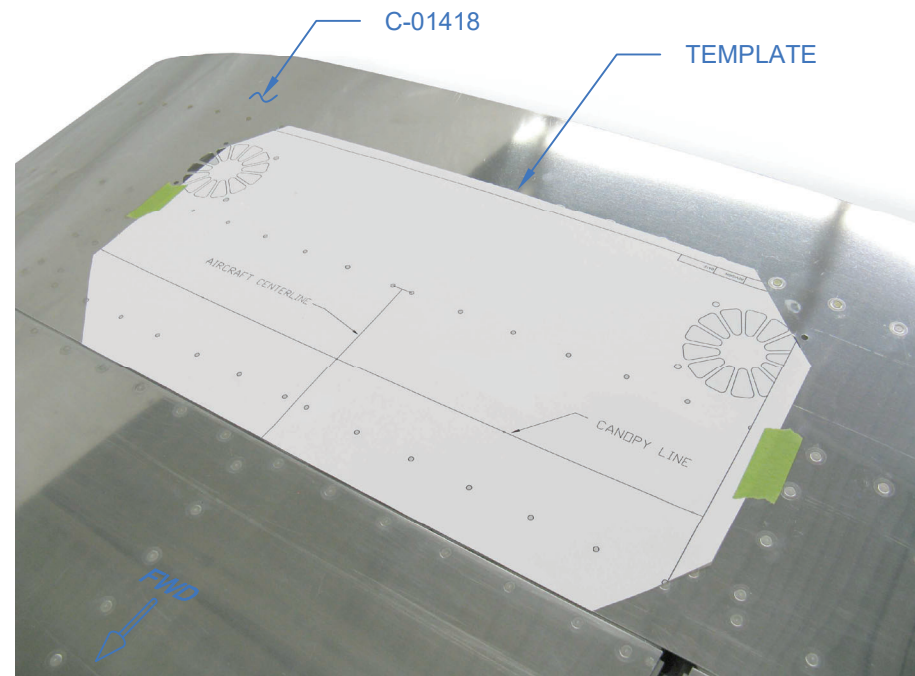

FIGURE 1: FORWARD CANOPY LINE TEMPLATE
Step 1: Tape the template found on Page 38-39 to the C-01418 Canopy Skin as shown in Figure 1.